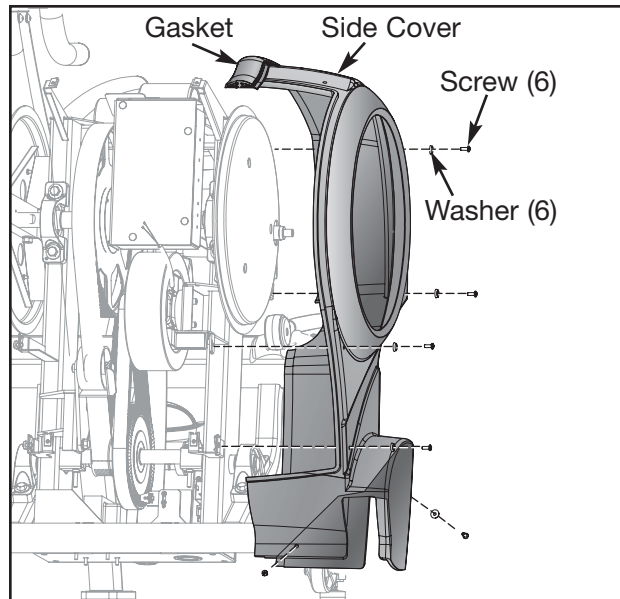

Figure 5
A. Remove the six screws and six washers securing each side cover in place. See Figure 5.
B. Remove both side covers. **NOTE:** The gasket will come off with one of the side covers. See Figure 5.